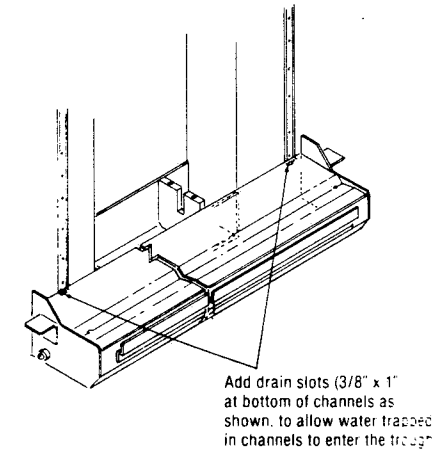

Figure 8-22. DRAIN SLOTS.
5. Once the door seal channel has been located against the jamb, but before it is fastened permanently into position, drill several 3/8" dia. holes at the point where the channel on the jamb meets the top of the trough. Join the holes together to form a slot approximately 3/8" by 1". (See Figure 8-22)